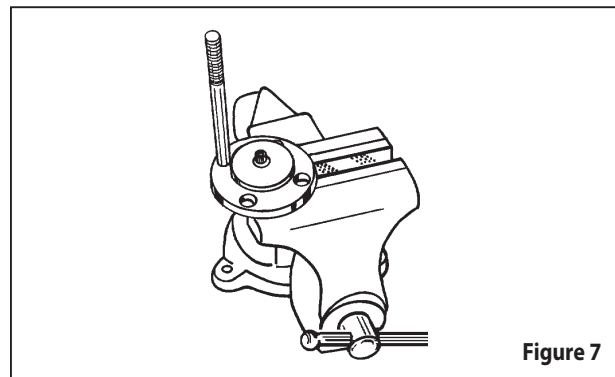

Figure 7
1. Place the (10) screw and (11) lockwasher through the (13) plate and into the (14) button.
- NOTE:** Be certain the radius faces the (16) diaphragm.
2. Locate the (15) plate over the (14) button.
3. Position the (16) black diaphragm on the (10) screw.
4. Position the (17) white colored diaphragm in the same manner.
5. Thread the (40) valve stem onto the small screw and snug hand tight.
6. Flip the assembly over and place in a vise, locating on the valve stem flats. Use one of the (2) long bolts to align the diaphragms and the plate. The bolt is to help maintain alignment of the diaphragms only at this point (see figure 7).
7. Hold the plate in this position and tighten the (10) small screw into the stem. **NOTE:** Torque to 65 - 75 in. lbs (7.3 - 8.5 Nm).
9. Place the (18) "O" ring into the base groove.
11. Place the (9) spring and (22) spring stop on the plate.
12. Assemble the (1) housing to the (48) base, aligning the four bolt holes.
13. Retain the housing using four (3) lockwashers and four (2) long bolts. **NOTE:** Tighten alternately until snug, then torque to 20 - 25 ft lbs (27.1 - 33.9 Nm).